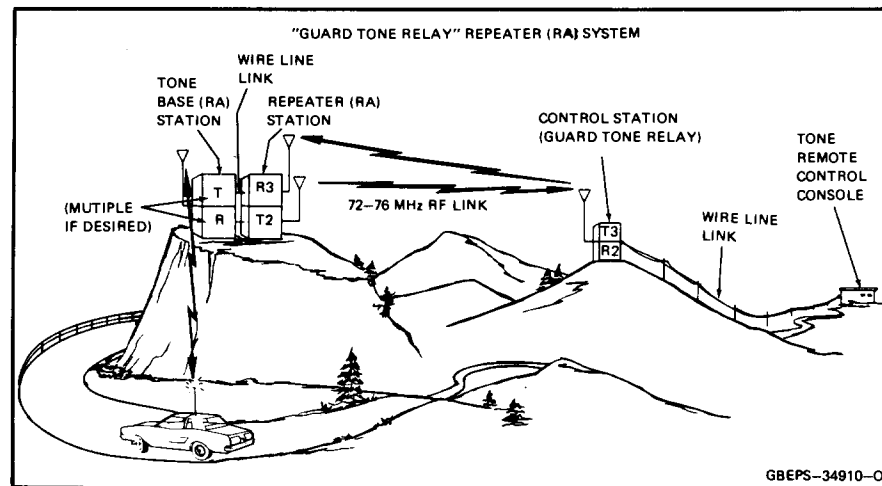

Figure 3.
In the "guard tone relay" repeater (RA) system (refer to Figure 3) the presence of an rf signal alone at the repeater (RA) station does NOT cause the companion station to transmit. Instead, the companion station is controlled via tone signals, just as if it were connected directly to a remote control console by a wire line pair. This permits multiple frequency operation (of the companion base station), PL disable (with coded squelch models), unique function commands, etc.